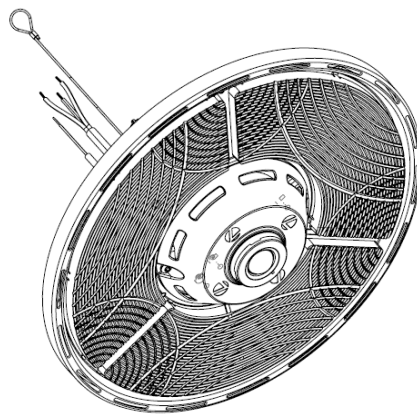

Figure 6
3. Position the full Sensor Logo Assembly where the CPRB Cover was a screw the CPRB Sensor Logo Cover on to the CPRB Fixture. A fully assembled view is shown in **Figure 6**.